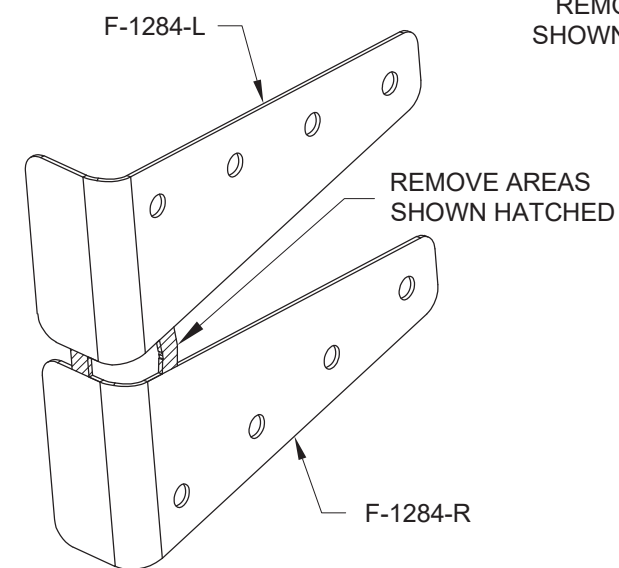

FIGURE 3:
Step 4: Mark, then separate the F-1284-L & -R Shear Clips by removing the areas shown hatched in Figure 3.